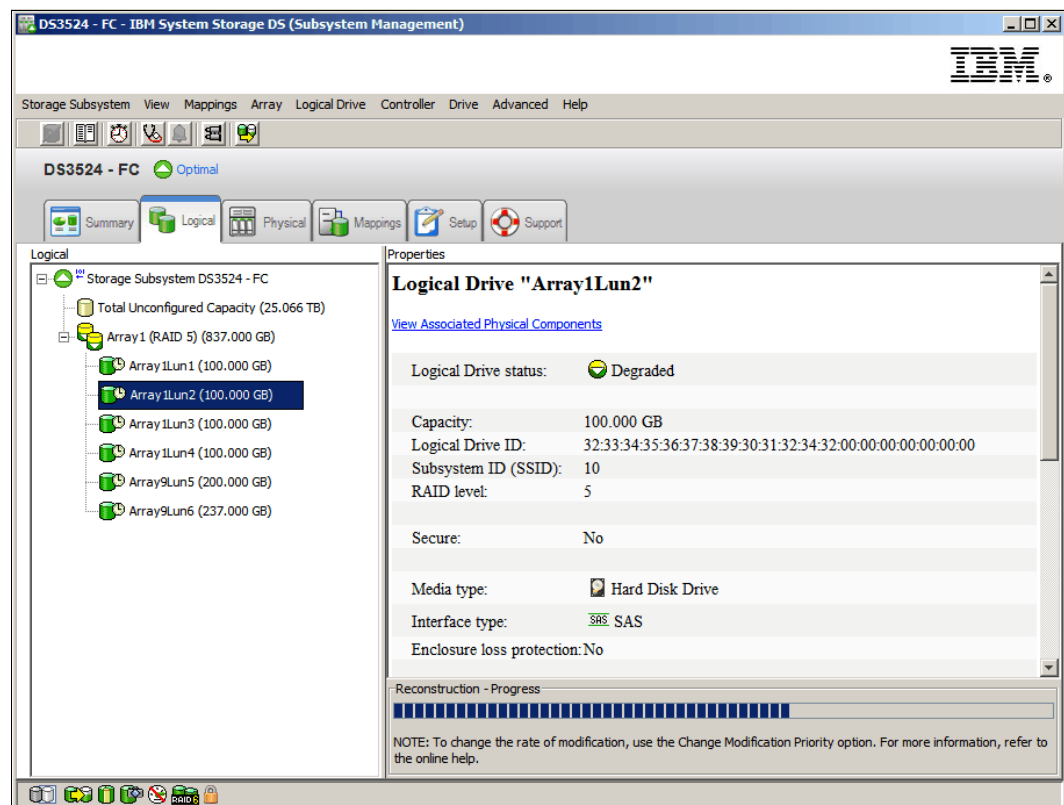

Figure 14-147 Reconstruction - Progress
4. The drive will have a status of Replaced while the reconstruction is occurring. The array and logical drive(s) will have a status of Degraded until the reconstruction has completed. You can view the progress of a logical drive reconstruction by selecting the logical drive in the Logical tab of the DS Storage Manager (Subsystem Management) window as shown in Figure 14-147.